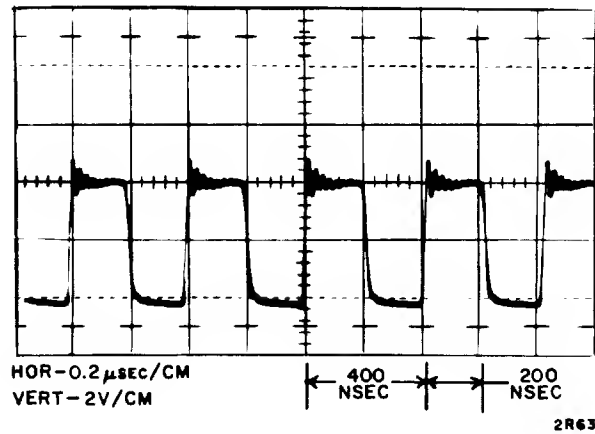

Figure 6-18. Pulse Shaper Trace
- c. Select any head and read Track 99. Make oscilloscope settings and a trace comparison according to Figure 6-18.
- c. Select any head and read Track 99. Make oscilloscope settings and a trace comparison according to Figure 6-19, parts A or B. The trace should meet the requirements of Figure 6-18, part B.
- e. If the requirements of Figure 6-18 are not met, replace the applicable head/arm assembly and/or the related torsion arm assembly.